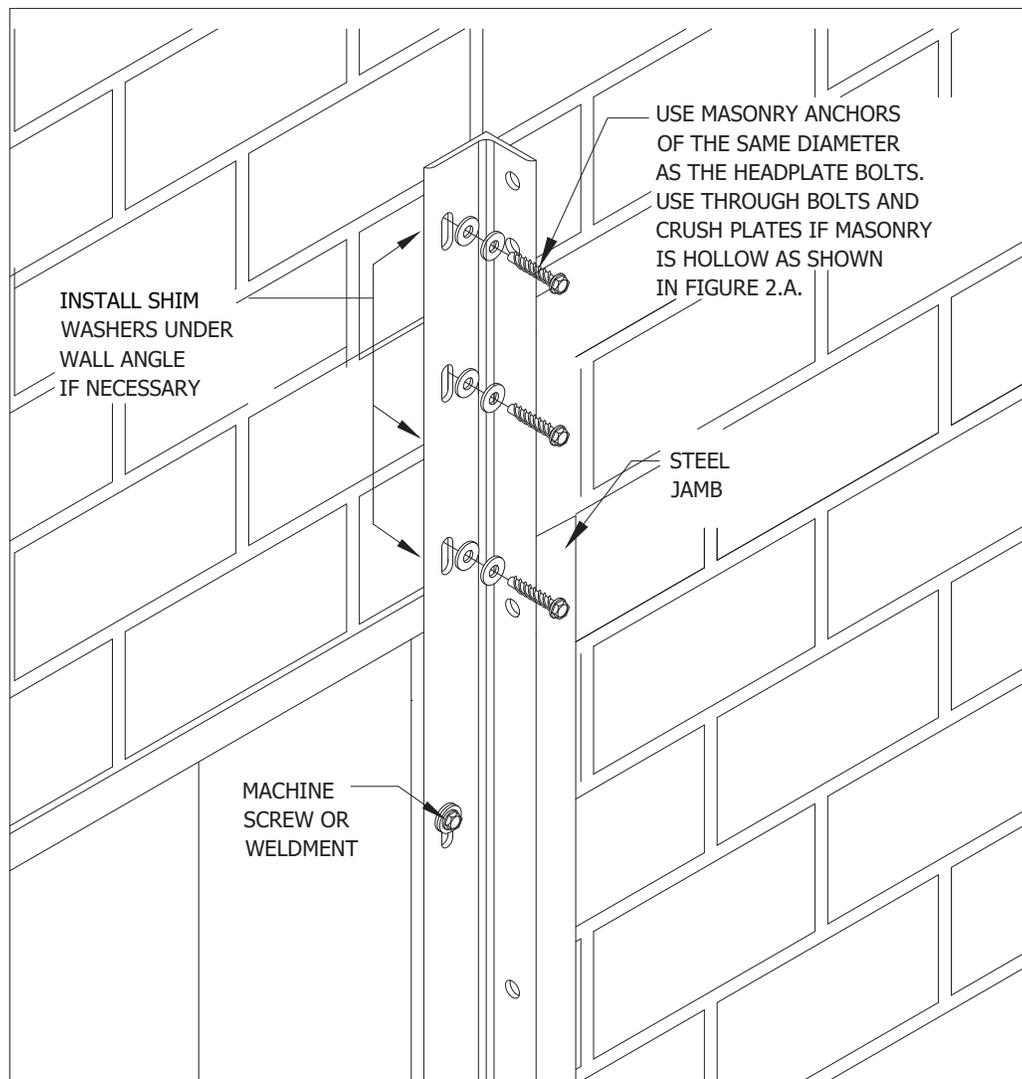

FIGURE 7
NOTE: Use only fasteners provided and approved by Janus International Group. Reference Figure 3 to determine correct jamb fastener type for your application, and for drill bit size, etc. Locate wall angle masonry anchors or machine screws in the TOP of each slot as shown in Figure 7.
NOTE: Wall angles may extend above steel jambs onto masonry. In this case, attach with masonry anchors of size and type recommended by manufacturer. Mount in the top of each slot as shown in Figure 7. Shim with washers as required to maintain a flush mounting surface for the wall angle. Use anchors that match the diameter of headplate bolts.
- ✓ Two hot dipped galvanized washers must be installed under the head of each jamb fastener as shown in Figure 7.